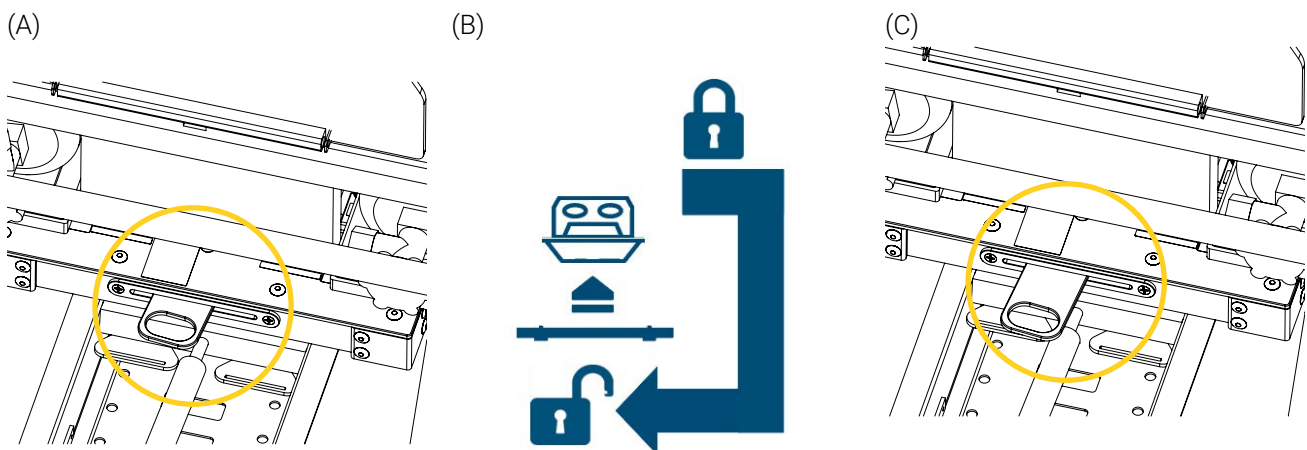

Figure 14: Unlocking the incubator - Patient head end
1. At patient head end, locate the incubator lock/unlock quick release latch, and verify its position. It should be retracted towards patient left in the locked position (Figure 14 A).
2. Move the quick release latch towards patient right, pull out the latch, then move it towards patient left (Figure 14 B) to unlock the incubator from the Neonatal Transport Incubator Platform (Figure 14 C).